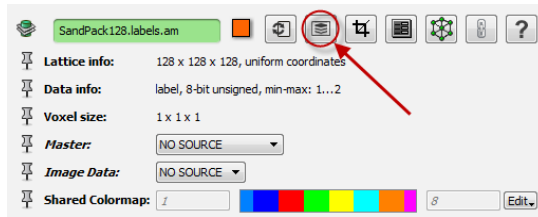

Figure 5.6: The *Segmentation Editor* button.
- In the label image property area, invoke the *Segmentation Editor* in order to access the tools necessary to clean up the labels (see Figure 5.6).